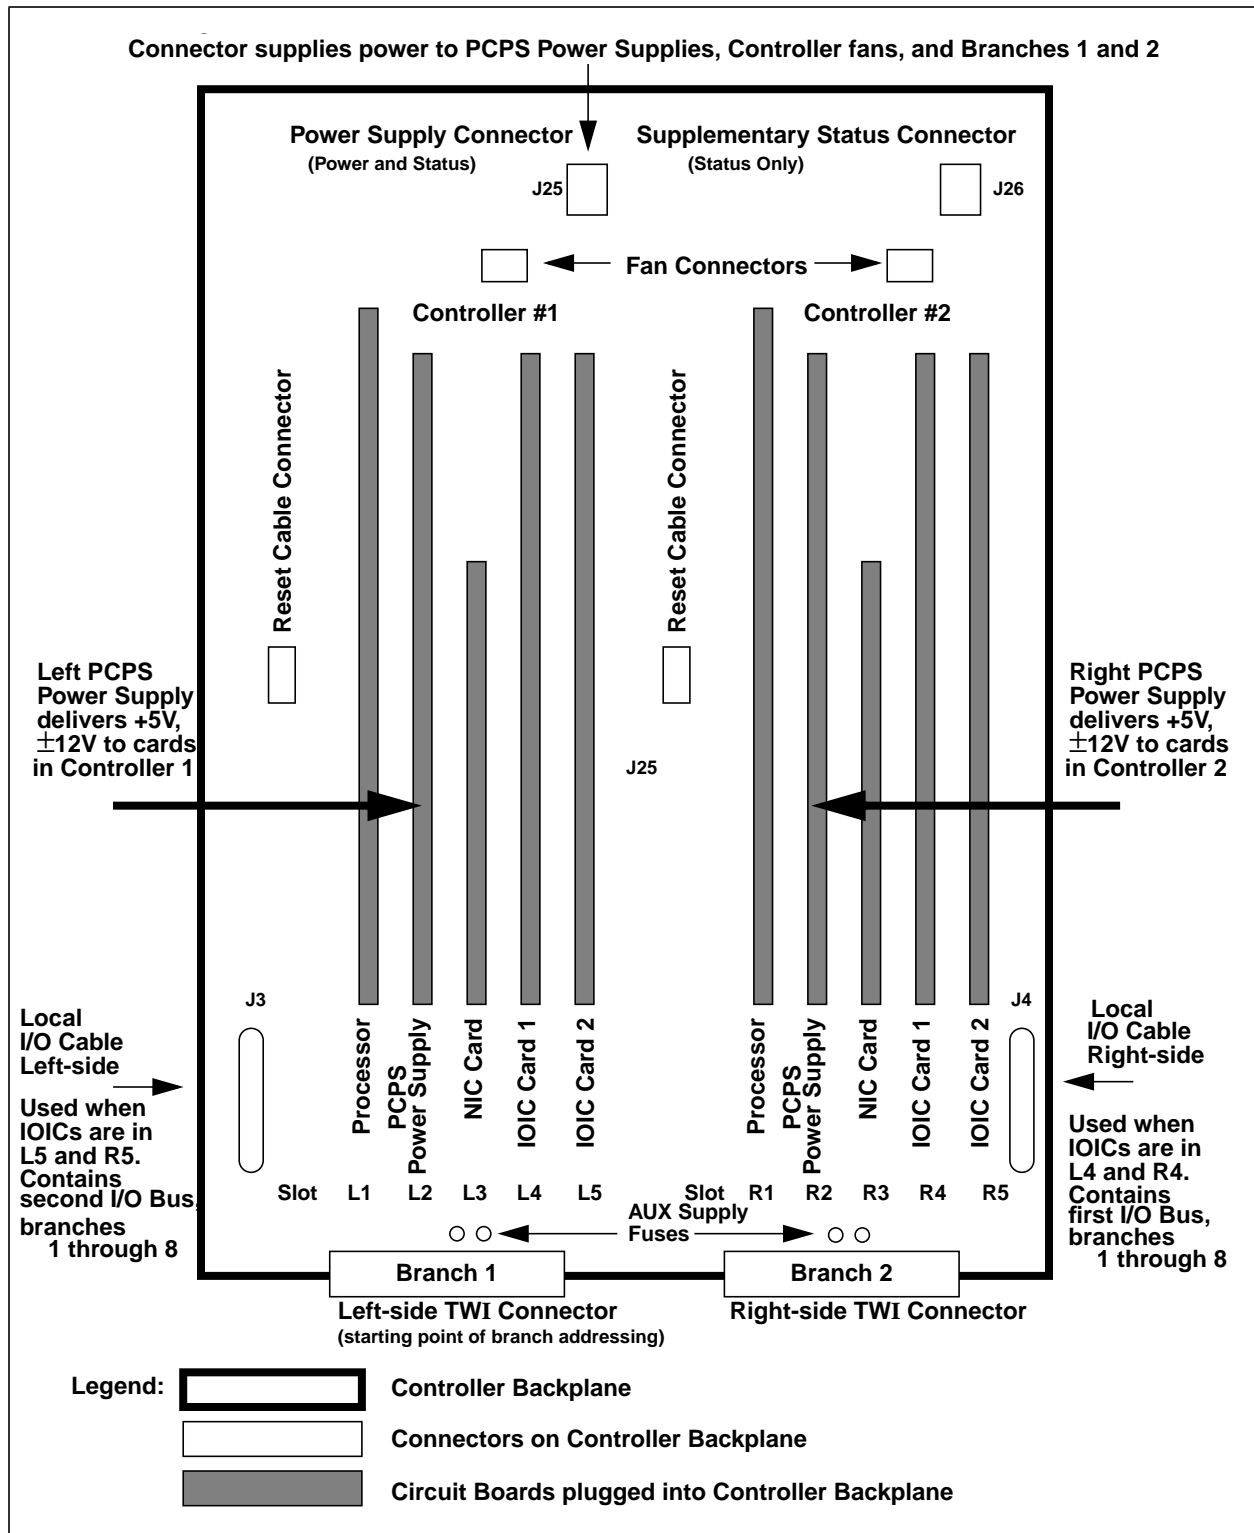

Figure 26-2. Controller Backplane (CBO)
- Redundant Ovation Controller Chassis - Housing two separate Controllers (refer to Figure 26-2). Each Controller contains:
There are two slots available for I/O interface cards for each functional processor in the redundant Controller cabinet (see Figure 26-2). The following IOIC cards must be used: